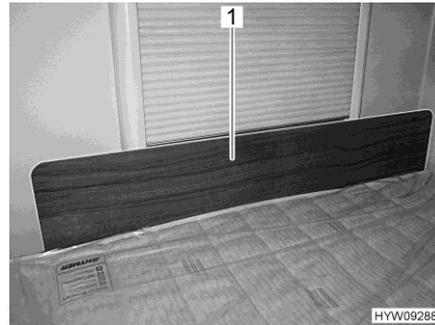

Fig. 76 Protective panel / fall out protection
- Plug in the protective panel (Fig. 76,1) in front of the window, between mattress and window frame. The clamping effect of the mattress holds the protective panel in its position in front of the window frame.